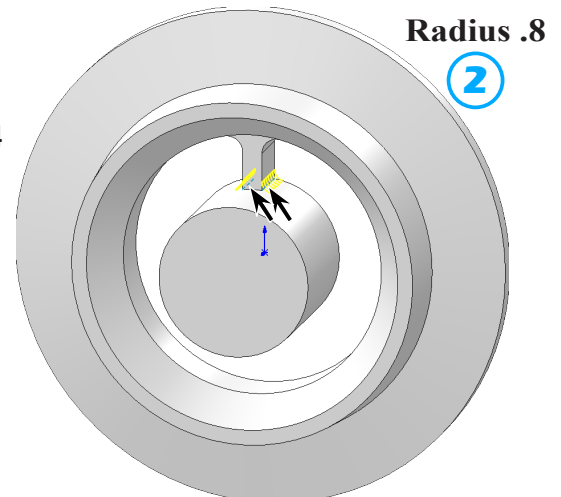

Fig. 24
- ② **Radius**  **.5**
click **inside bottom edges of spoke (2)**, Fig. 24